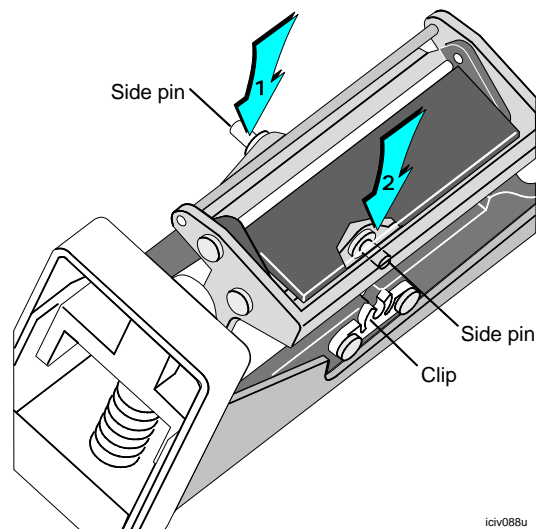

Figure 7-18: Replace the printhead in the cage
- 5 Grasp the printhead and align the side pins with the clips in the printhead cage. Press firmly on the ribbed side of the printhead (step 1 in Figure 7-18) and then the flat side (step 2 in Figure 7-18) in until the pins are firmly seated in the clips.
- i** If the printhead does not look similar to Figure 7-18 or does not snap into place, the printhead cartridge might be backward.